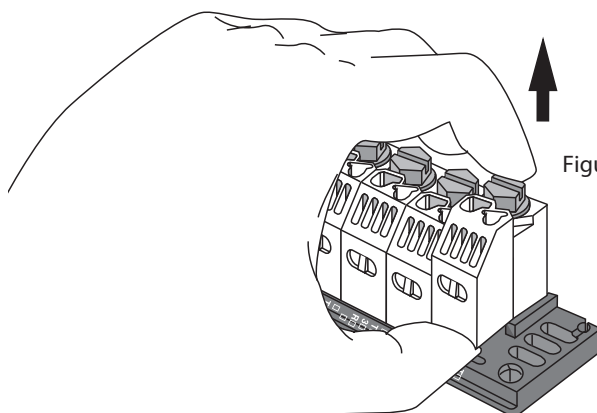

Figure 13
3. To replace a driver module, back driver module off until it clicks or spins freely in the "up" position. Remove the drop wire from the wire connection port. Lift the module slowly off of the terminal block and discard. (Fig. 13) Align the new driver module and push down on it until it clicks into the "up" position. Trim and reinstall drop wire, then tighten module until it bottoms out in the "down" position.